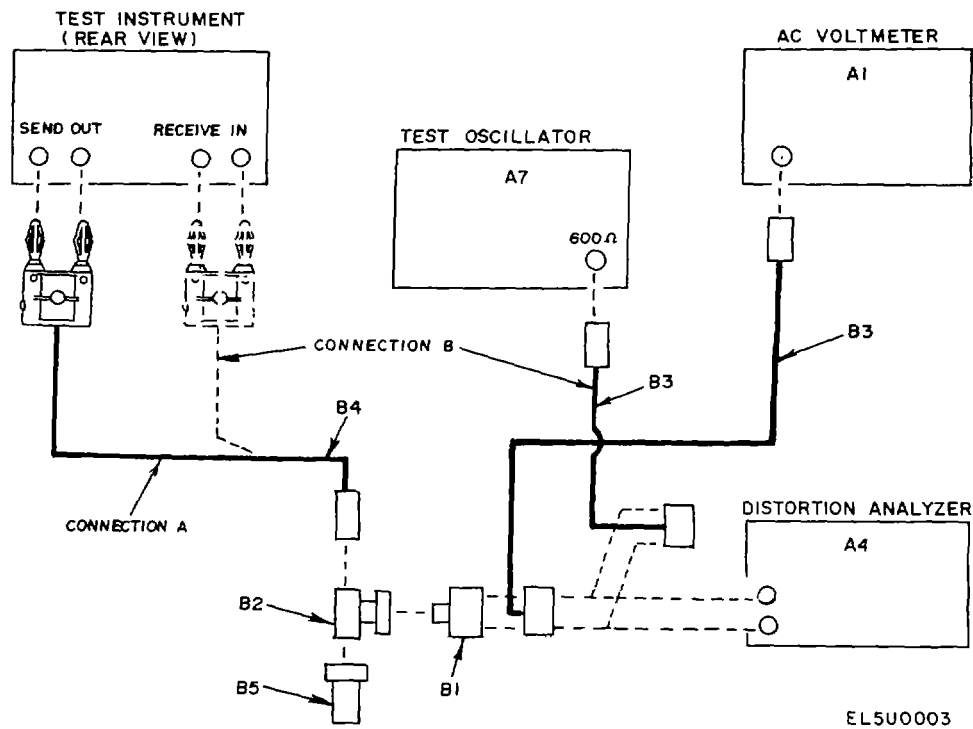

Figure 3. Distortion check and meter accuracy - equipment setup
- (1) Connect equipment as shown in figure 3, connection A.
- (1) Connect equipment as shown in figure 3, connection B
- (2) Set RECEIVE-DBM switch to 0 (zero).
- (3) Adjust test oscillator (A7) for 1,000 Hz and output amplitude for a 775-V indication on ac voltmeter (A1)
(4) Adjust ADJ REC control for a red-line (0 dB) indication on DECIBELS meter
(5) Adjust test oscillator output amplitude to obtain DECIBELS meter indications listed in table 4. Ac voltmeter will indicate within limits specified.